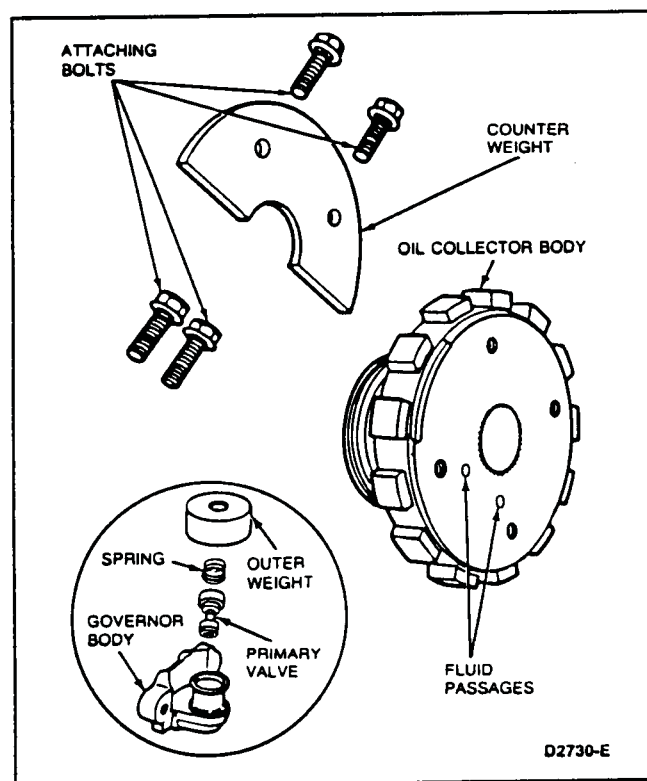

FIG. 37 Governor Housing—Disassembled
2. Remove the governor components from the governor body (Fig. 37).